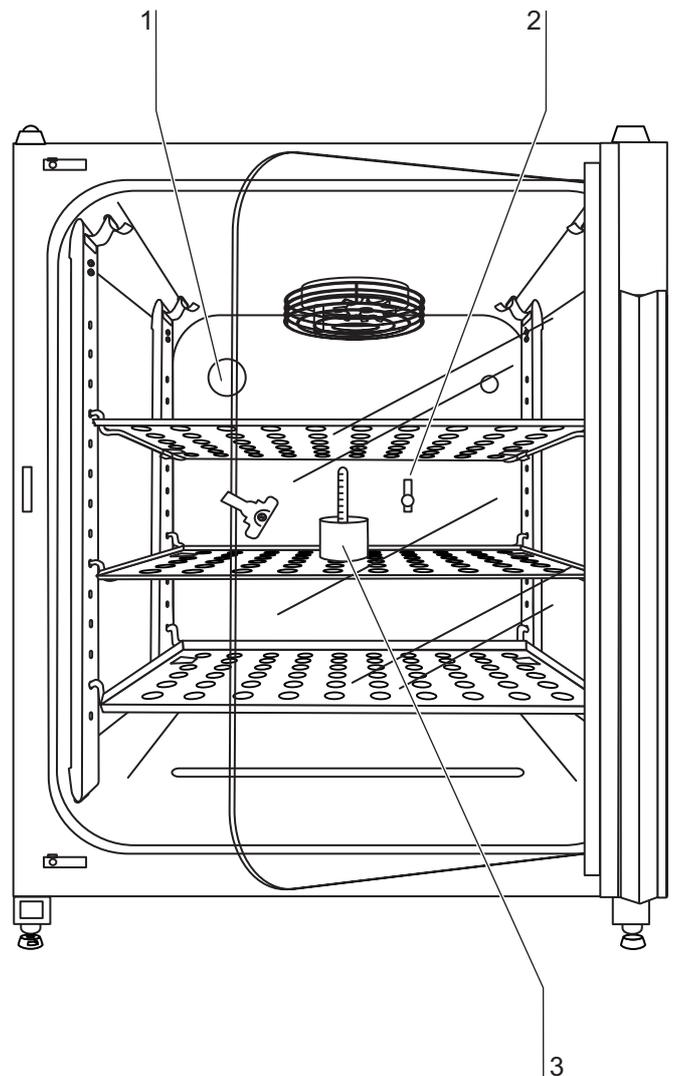

Fig.19: Temperature calibration
3. **Fig.19:** Place measuring instrument [3] onto the center area of the work space. Alternatively, a temperature sensor may be positioned in this location. Route the connecting cable either through the measurement opening [2] in the glass door or through the access port [1] at the rear panel of the device.